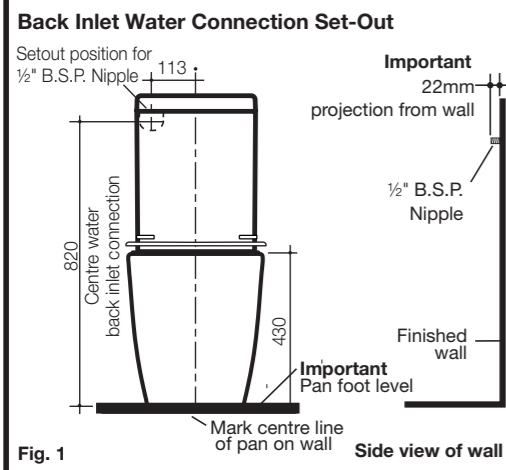
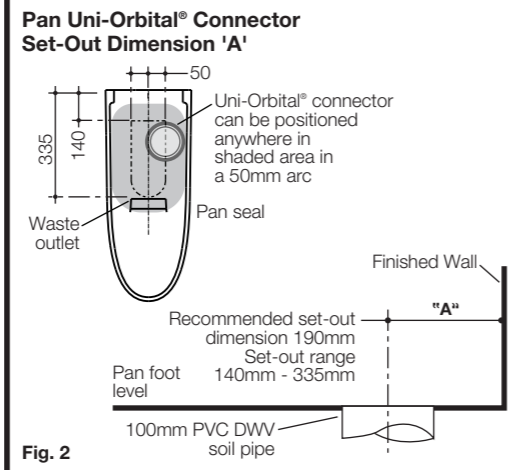
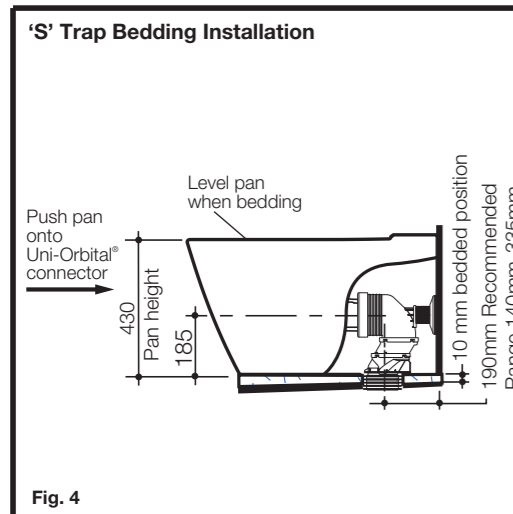
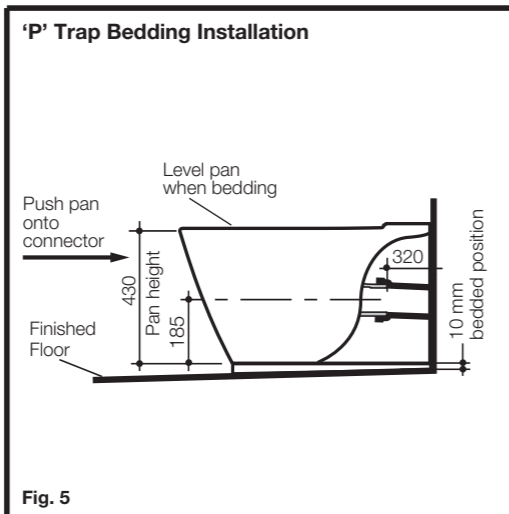

Fig. 1
Fig. 2
Fig. 4
Fig. 5
The Care 800 Cleanflush® toilet suite is universal for both 'S' and 'P'-Trap installations. The Caroma Care 800 Cleanflush® pan has a projection of 800mm and has been developed to comply with the requirements of A.S. 1428-1 for wheelchair access. The pan is universal for both 'S' and 'P'-Trap installations. The set-out range for the 'S' trap installation is from 140mm to 335mm and 50mm sideways adjustment with the Uni-Orbital® connector supplied (Code No: 416040). The recommended set-out is 190mm from the wall as detailed in Fig. 2.
**For Care 800 Pan with Armrest Holes:** The Uni-Orbital® connector can only move forward and backwards, not sideways. The 50mm sideways adjustment, as detailed in Fig. 2, cannot be incorporated with the armrest bracket installed.
If a setout range of 90mm-140mm is required, the optional Extended Uniconnector (Code No: 414260) can be used, this however will not allow for sideways adjustment, as detailed in Fig. 2.
- 1- Mark centre line of the pan on finished wall, as detailed in Fig. 1. This is to be used as a guide when connecting the pan. The centre line can be offset by up to 50mm from the soil pipe, as detailed in Fig. 2.
- 2- Determine set-out "A" of existing pan connector, as detailed in Fig. 2. Set-out range 140mm-335mm. Recommended set-out 190mm, as detailed in Fig. 4. For 'P' trap installation, see Fig. 5.
- 5- Position and push pan into connector using the marked centre line on the wall as a guide and level pan into bedding mixture, so that the back of the foot of the pan is approximately 10mm above the finished floor, as detailed in Fig. 4 & 5. It is recommended that wedges are used to support the foot of the pan during the positioning.